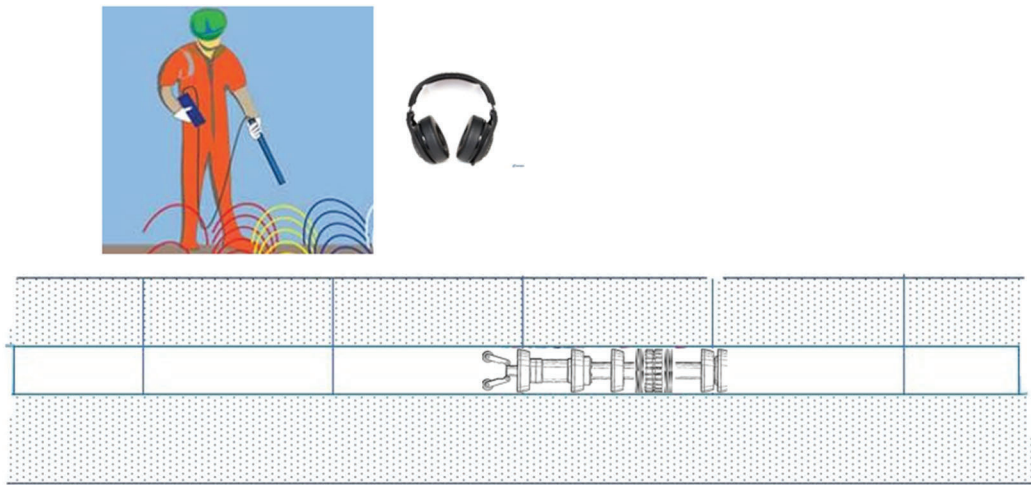

Figure 10. AGMs and transmitters enhance the tracking of pigs and tools during a pipeline run.
- Figure 10.** Pipeline Technology Conference 2021, Lost and Found: An In-Line Inspection Tool Case Study, Alan Morton